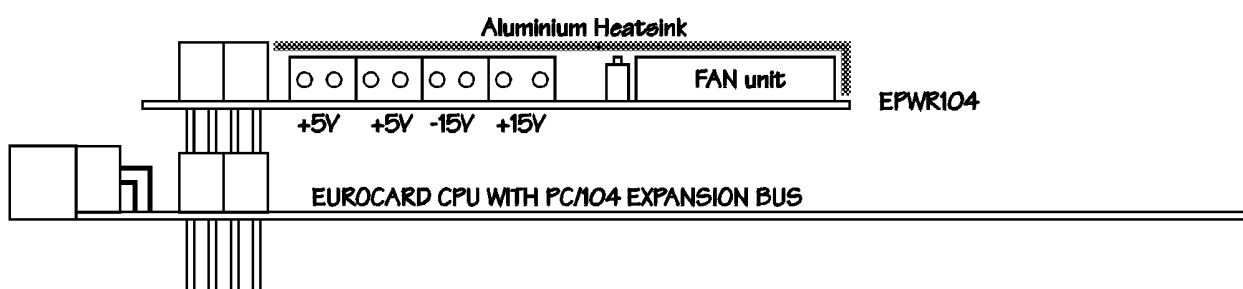

Fig. 1-2: 19" Eurocard rack installation with an EPWR104HR and an EUROCARD cpuModule computer
- Fig. 1-2:** 19" Eurocard rack installation with an integrated PC/104 RTD dataModule and EUROCARD cpuModule computer system